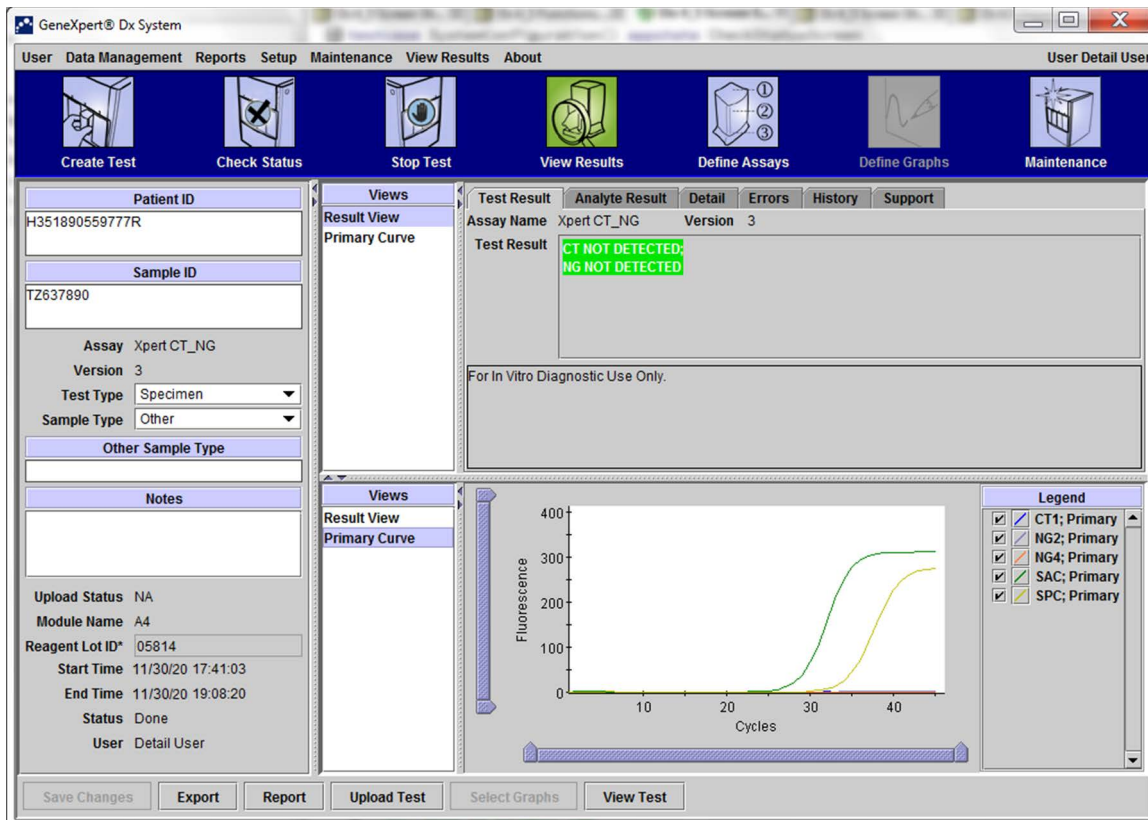

Figure 5-31. GeneXpert Dx View Results Window (Detail and Administrator View)
1. In the GeneXpert Dx System window, click **View Results** on the menu bar. The View Results window appears. See Figure 5-31.
The View Results window displays different features for different user types. Section 5-32, Select Test to be Viewed Dialog Box - Basic User View describes the View Results window for the Basic users. Section 5.11.2, Detail User and Administrator View describes the View Results window for the Detail users and Administrator users. Figure 5-31 shows a View Results window for Detail users and Administrator users.